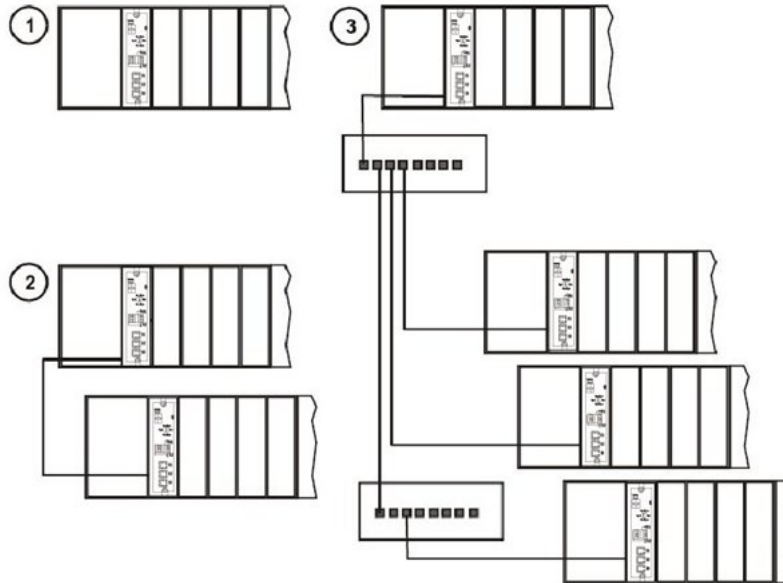

Figure 19 – ControlEdge HC900 Controller Configurations
Examples of ControlEdge HC900 Controller I/O expansion configurations are shown in Figure 19.
- In Figure 19, any of the racks shown in each controller configuration can be 4-, 8- or 12-slot versions. Redundant I/O power not available with 4-slot.